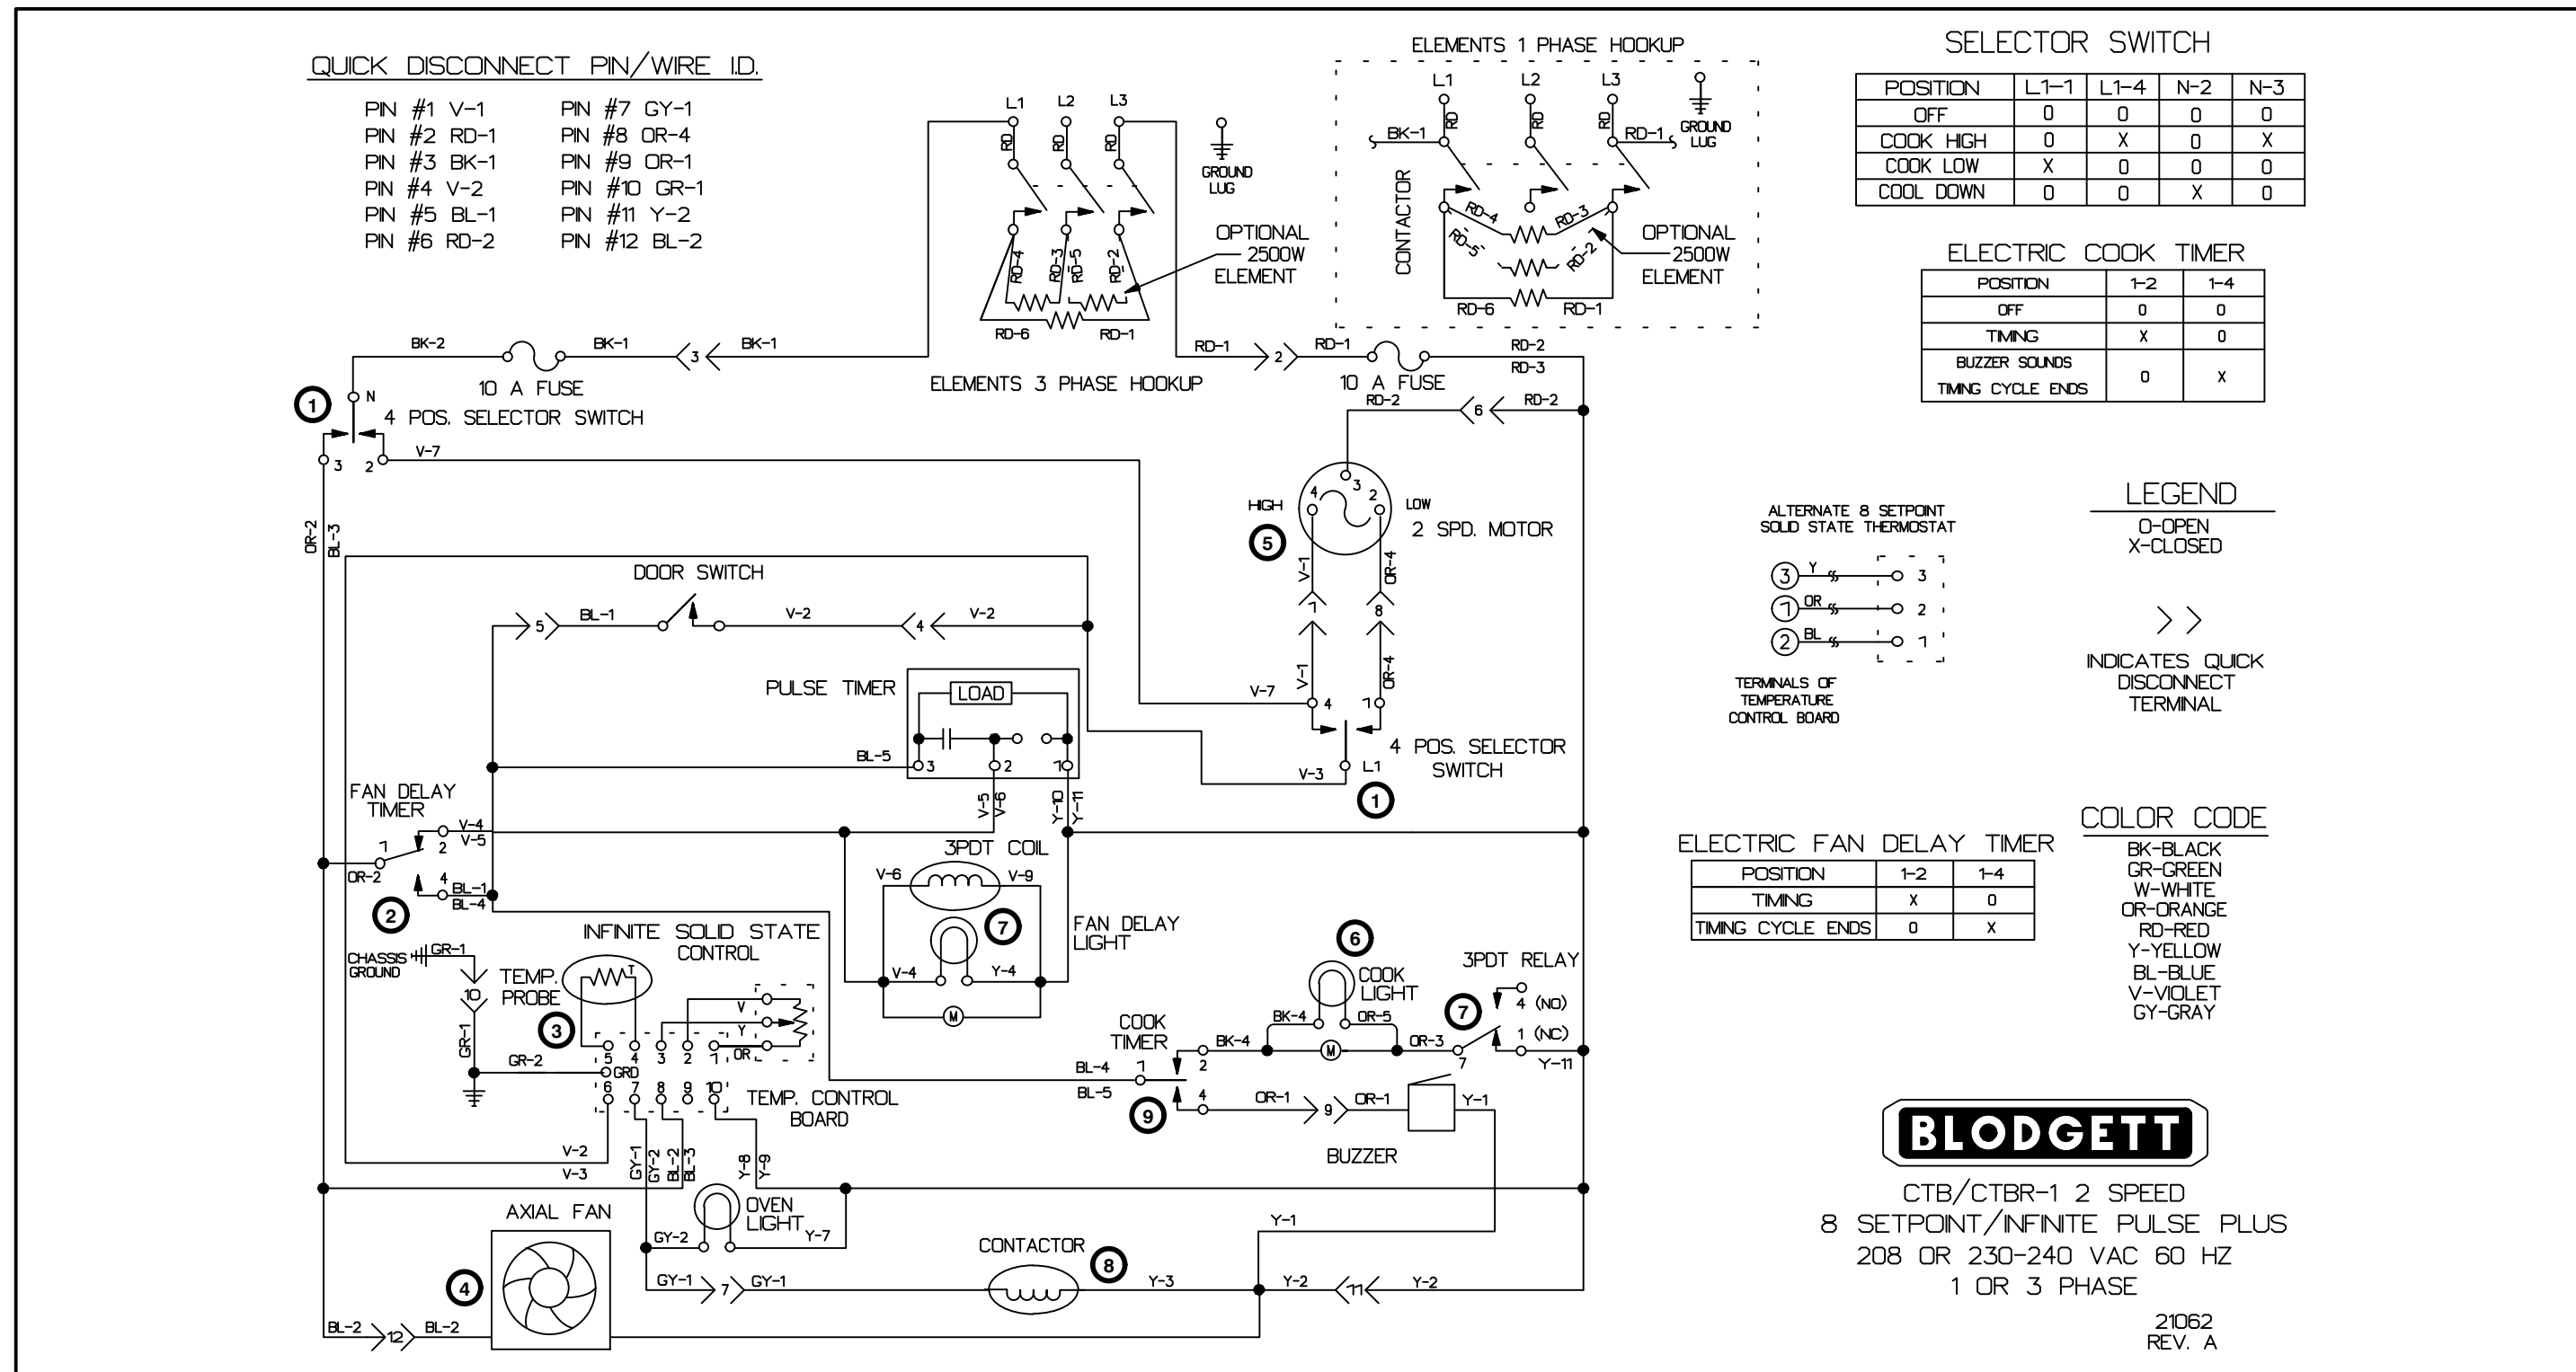

FIGURE 12
*NOTE: Refer to FIGURE 12 page 3–12 for component locations.*